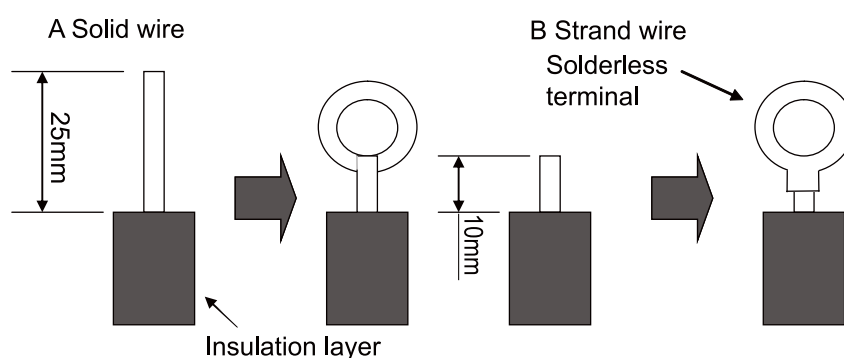

Fig.36
(1). For solid core wiring (Fig.36)
(2). For strand wiring (Fig.36)